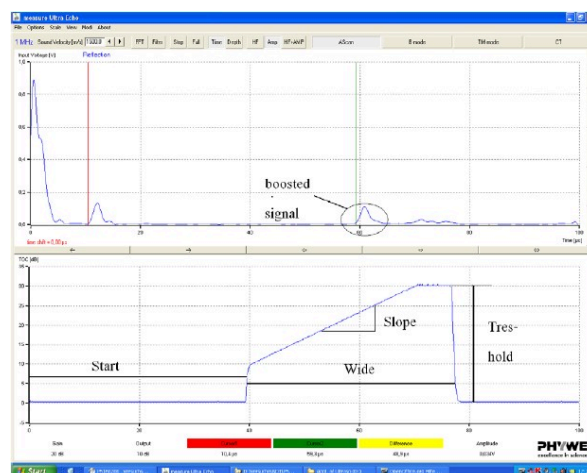

Fig. 2: Illustration of the effects of the amplifier or booster settings on the diagram
- Measure the defects, put the block on its long side and determine the block size (BS), the distances S1, S2 and S3 or S4 (Fig. 2) for each hole.